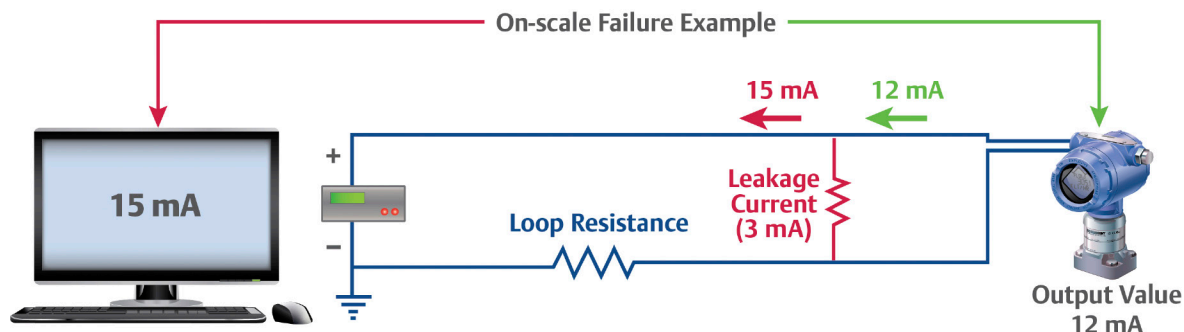

Figure 1.2: Current leakage causes readings from instruments to appear higher than they actually are.
*Leakage current* – Some situations can create a partial short circuit where a new circuit path is formed. Electrical current “leaks” from one side to the other, often due to moisture or corrosion (Figure 1.2), which might change the signal level. For example, if the actual signal from the transmitter is 12 mA and the leakage allows another 3 mA, the host system will believe the reading is 15 mA and show a corresponding value to the operators. If the transmitter sends a signal greater than 18 mA, the system will incorrectly show a fault because the value will exceed 20 mA. This on-scale failure can cause operators to take improper action, or it can cause a control loop governed by that transmitter to respond incorrectly.